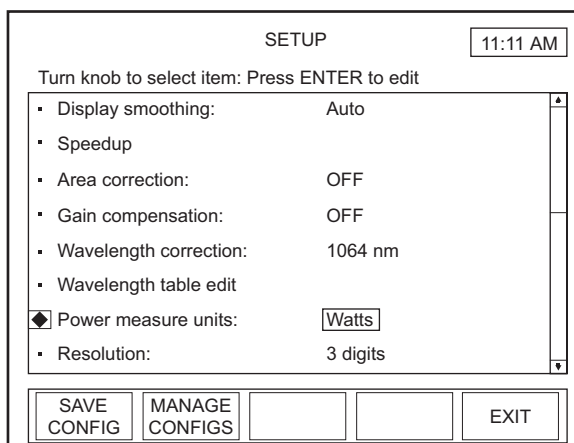

Figure 59. SETUP: Power Measure Units
2. Press the ENTER/SET button to highlight the value field (Figure 59).